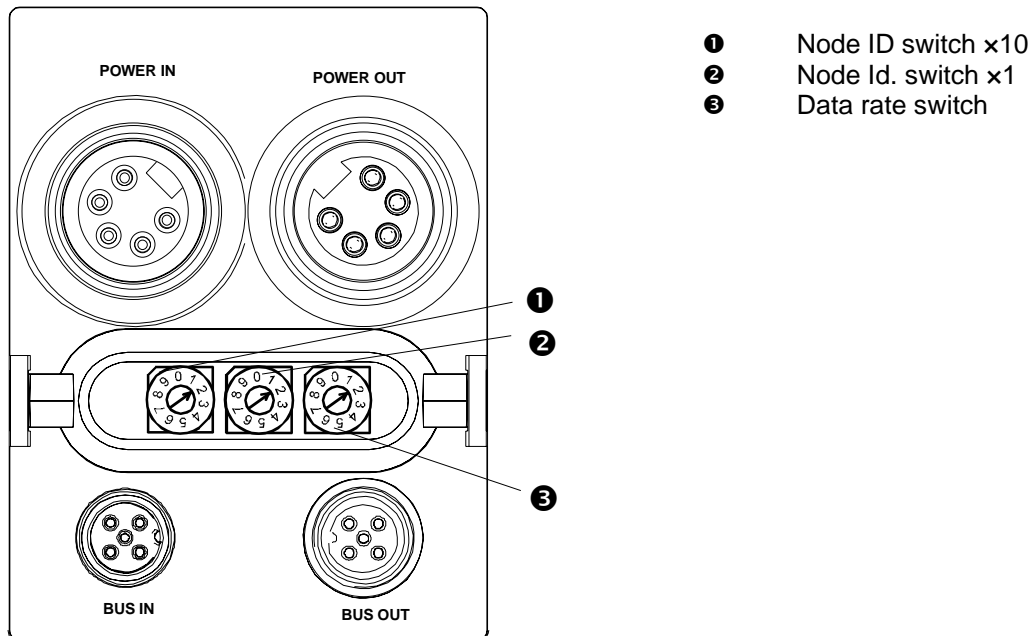

Fig. 3-3: Data rate and Node ID-switches
The Node ID of the MVK-MC module is set as a decimal number with the two rotary switches (see Fig. 3-3).
The data transfer rate is set with a rotary switch (see item 3 in Fig. 3-3). Bit timing is according to CiA directives.